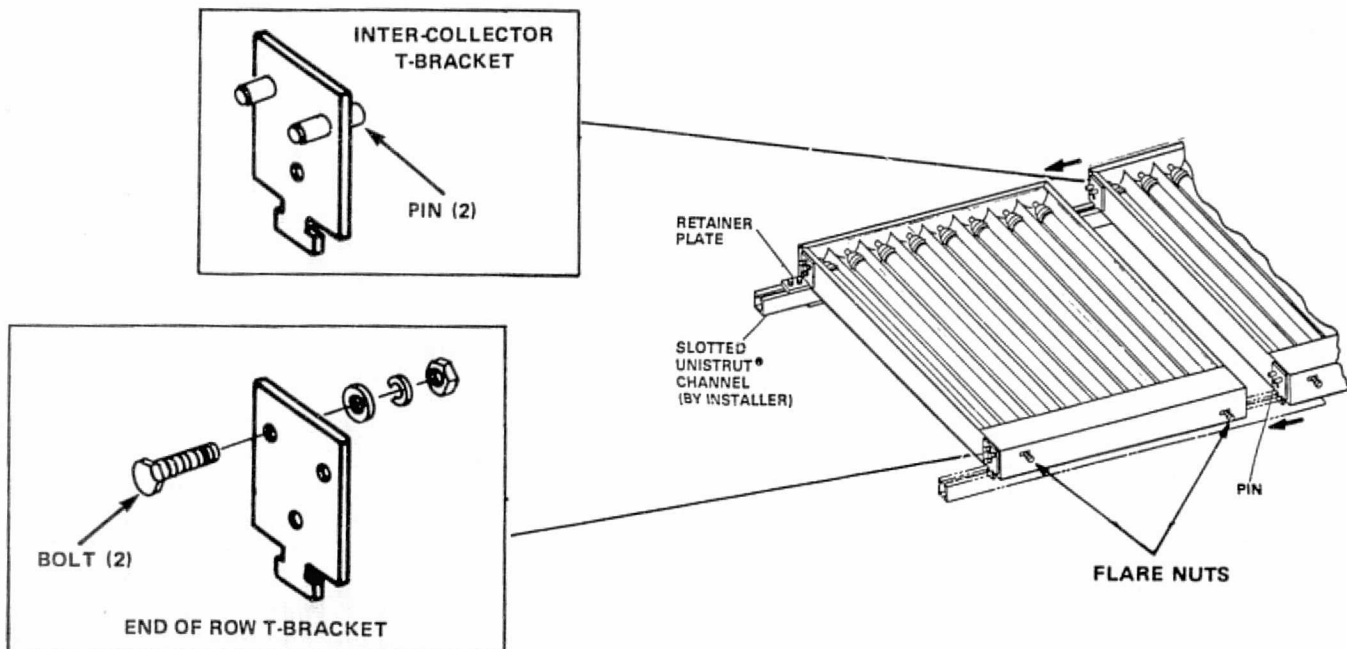

Figure 3-3. Direct Mounting Kits
Mounting Bracket Kits (Figures 3-3, 3-4 and 3-5) for either sloping surface, flat-roof or space frame applications are available. Direct mounting bracket kits (Figure 3-3) include T-brackets which lock the collector to commercially-available UNISTRUT® channels which are attached to the roof or other substructure. "Internal" brackets utilize pins while "external" brackets are bolted. The strut mounting option (Figure 3-4) offers a standard top and bottom bracket design for use with contractor-supplied transition struts. Space frame bracket kits (Figure 3-5) provide a standard L-bracket with a 3/8-inch threaded U-clamp for 3" diameter tubes. All three kit options include the required nuts, bolts and washers.
1. Direct mounting (Figure 3-3).
A collector mounting technique that utilizes a UNISTRUT channel attachment (Figure 3-3) provides a simple, quick installation and will also allow flexibility in the lateral positioning of the mounting brackets. By avoiding hard-mounting of individual collector support brackets, installation time can be reduced significantly in the alignment and attachment of brackets and collectors. Installation time can be further reduced by using the internal mounting brackets offered in the General Electric mounting kits which use pins rather than nuts and bolts for slide-on interconnection of adjacent collector panels.